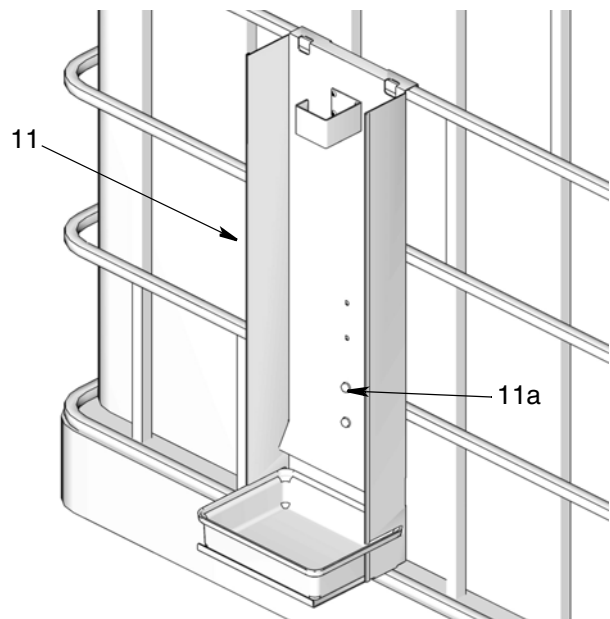

FIG. 20
1. Position the meter tray (11) on the side of the IBC tank as shown in FIG. 20. Secure tray in place using 4 screws (11a).